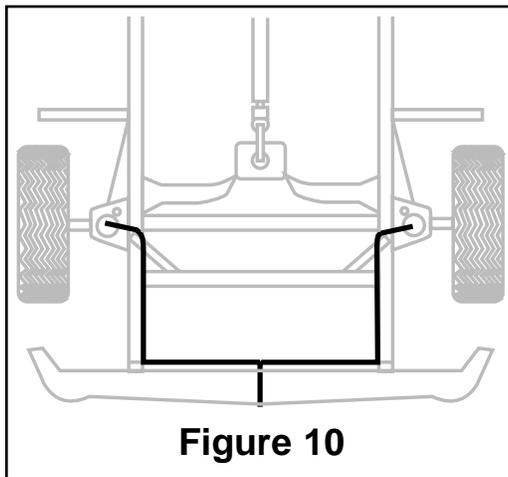

Figure 10
- H. Push the remaining air line over the last fitting on tee and route along frame to desired inflation valve location (Figure 10). Attach with plastic straps or wire.